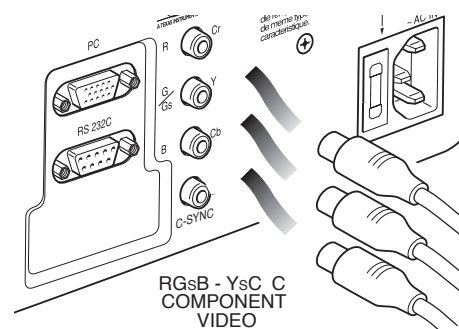

Fig. 19
This input is suitable for a RGB video signal, or for a Component (YCrCb) type, with composite synchronisation on the green signal (RGsB) or on the luminance (Y) signal (YsCrCb) through a cable with RCA/Phono type connector (**Fig. 19**).